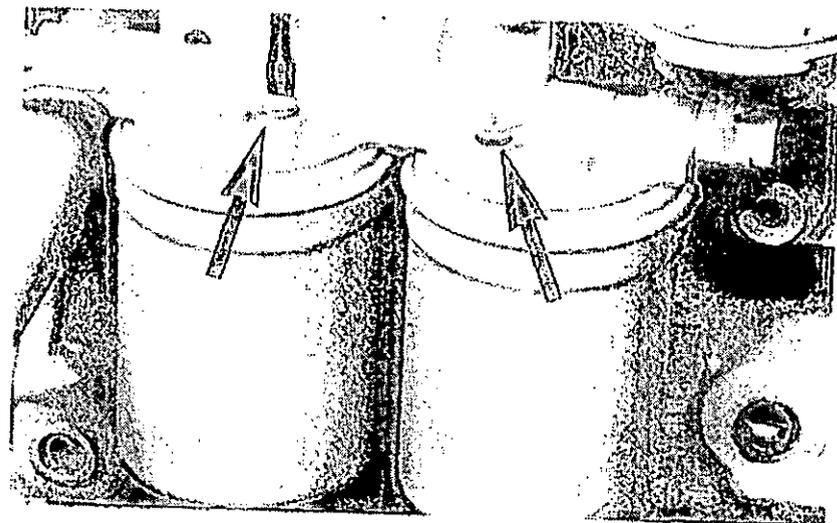

Fig. 24 Fuel filter vent screw
- 1 Loosen the vent screws on the top of the fuel filter (see fig. 24) by two or three turns.